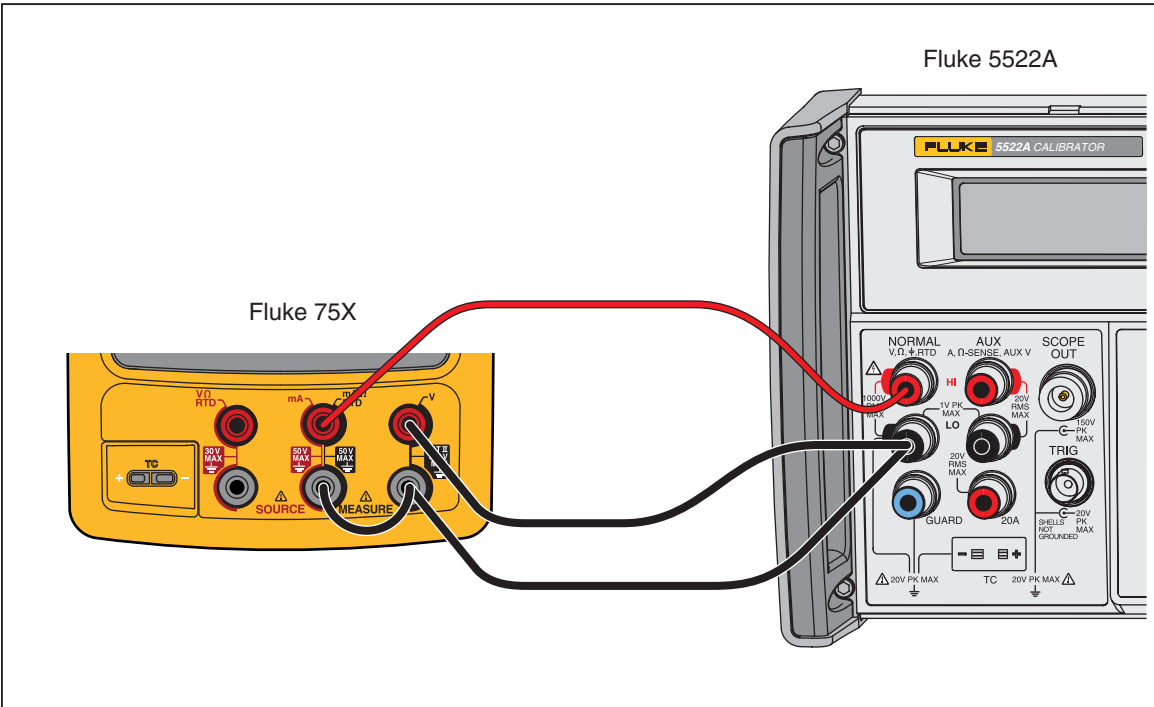

Figure 12. Three-Wire RTD Measure Verification Connections
1. Connect the UUT to the 5522A as shown in Figure 12.
2. Set the UUT to the RTD measure function, Pt100 (385), ITS-90 scale, three-wire termination.
3. Set the 5522A to RTD, Pt100 (385) at -180 °C, ITS-90 scale, and comp four-wire to "OFF" position.